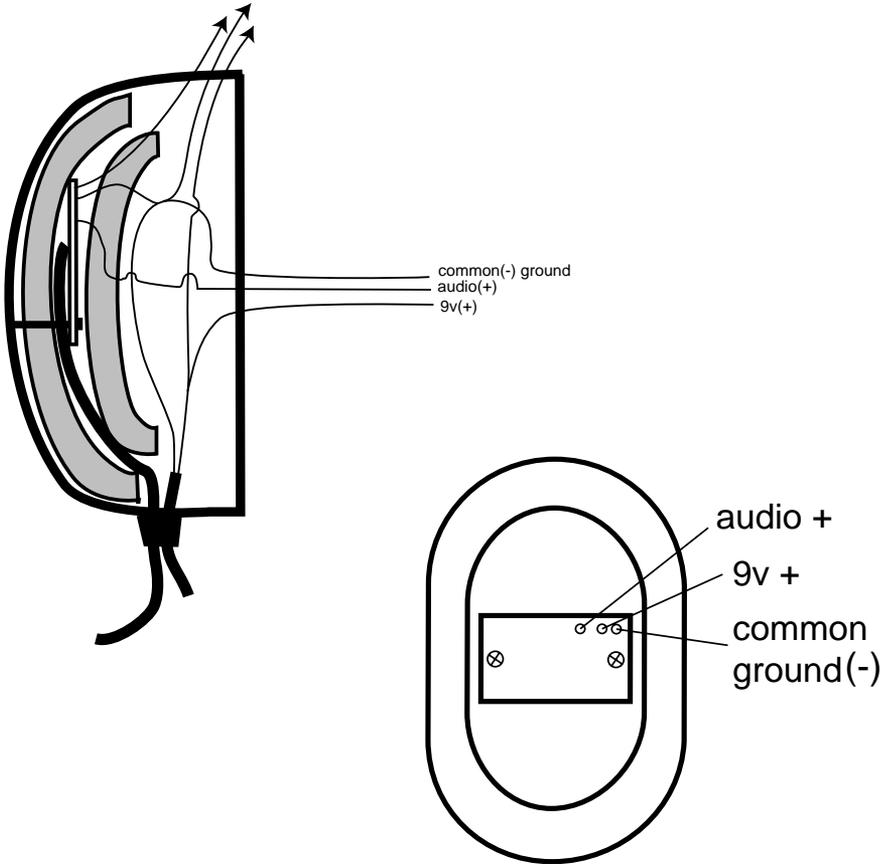

Fig. 3
Figure 2 is provided as a general overview of the circuit boards found in each Peltor earcup. Your circuit boards may not exactly match Figure 2. Use Figure 1.1 and Figure 3 when making the wiring harness. These instructions are designed so that the installer need only identify the 2 original speaker wires and 2 original crossover cable wires in each earcup.
Solder the 9v(-) lead from the power cable to the black wire originally attached to the Peltor speaker. Next, solder a 4 inch piece of black wire (provided) to this first splice. This black wire is a common ground and will attach to the anr module per Fig. 3.
3. The audio(+) L lead is the yellow wire that went to the original Peltor speaker. It will attach to the left module per Fig. 3.